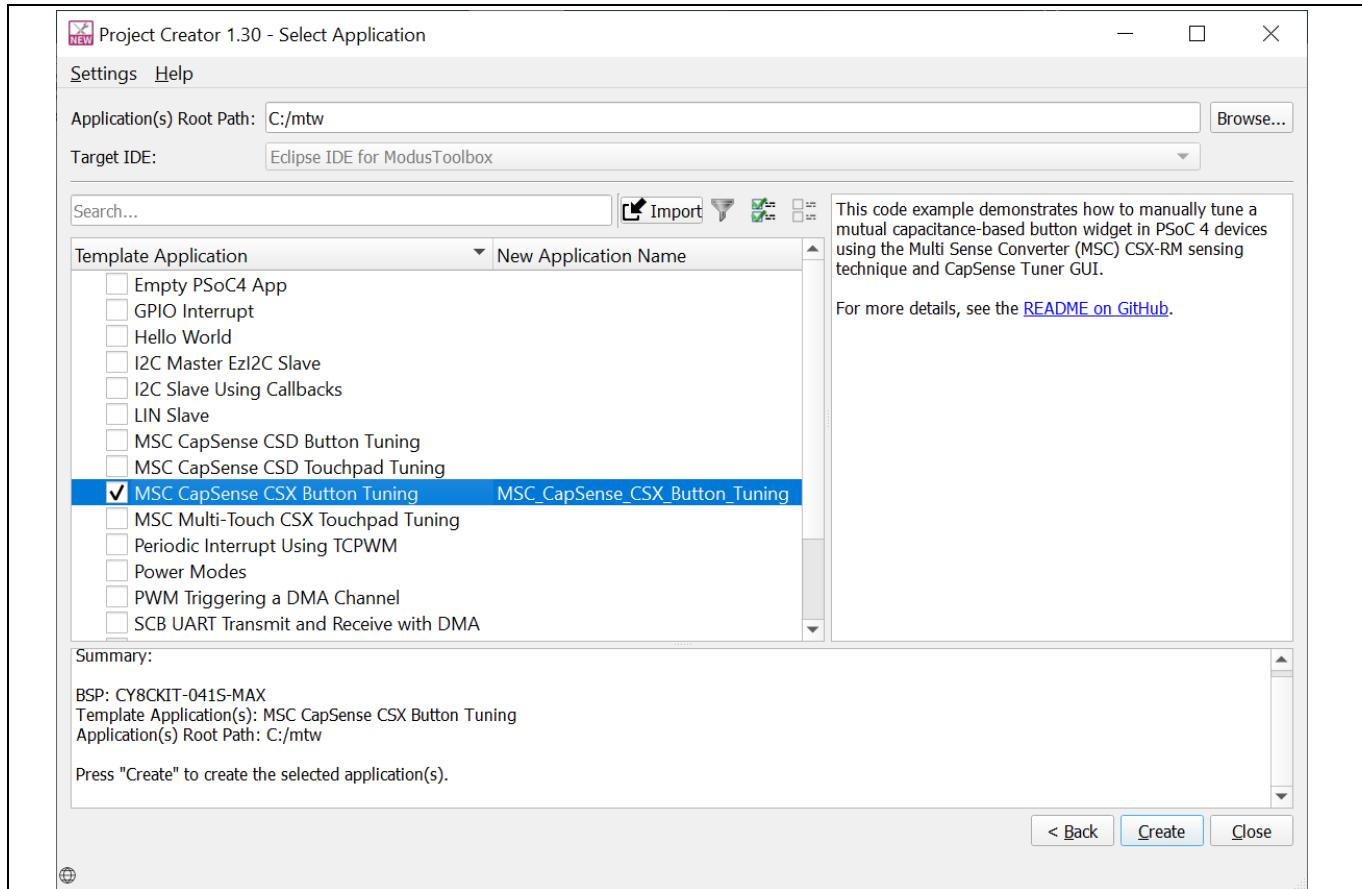

Figure 10 CY8CKIT-041S-MAX Application selection
- c. Select the application and click **Create**, as shown in **Figure 10**.
There are more code examples available in ModusToolbox™ IDE (see Figure 10) or in GitHub page dedicated to ModusToolbox™ based examples, to evaluate the capacitive sensing expansion board: PSoC™ 4: MSC multi-touch mutual-capacitance touchpad tuning, PSoC™ 4: MSC Self-Capacitance Touchpad Tuning, PSoC™ 4: MSC Self-Capacitance Slider Tuning etc.